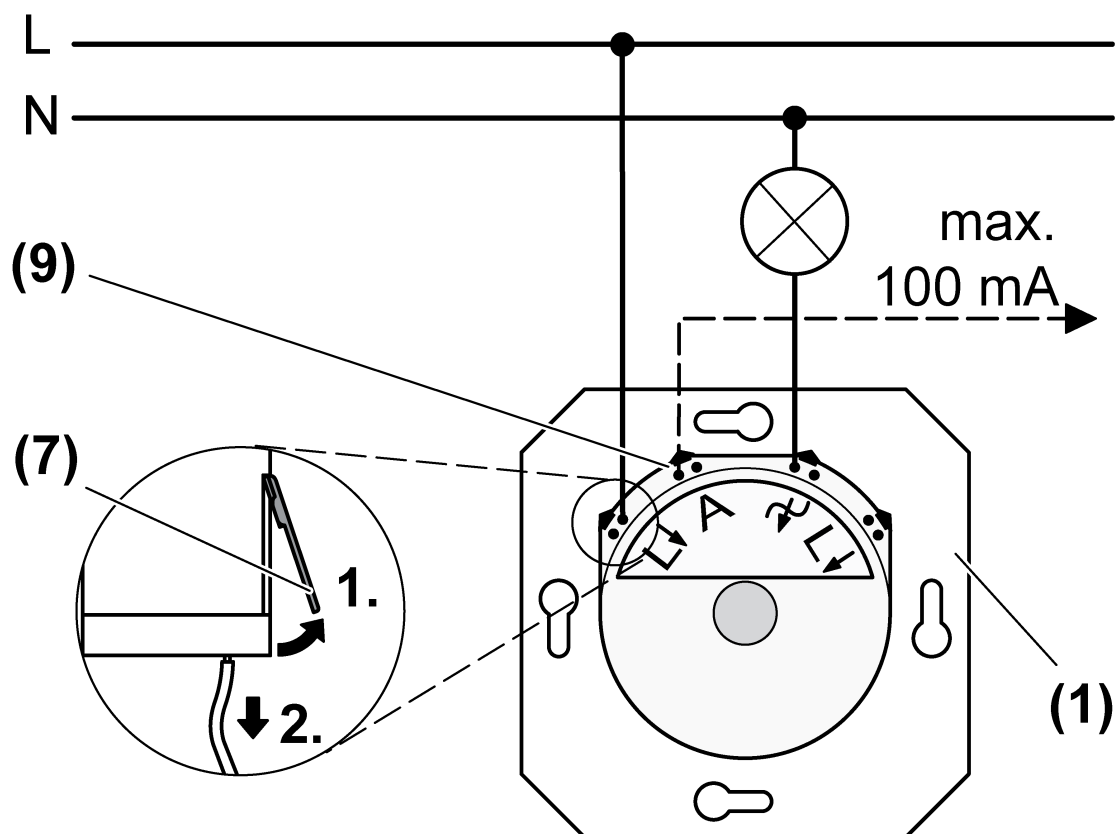
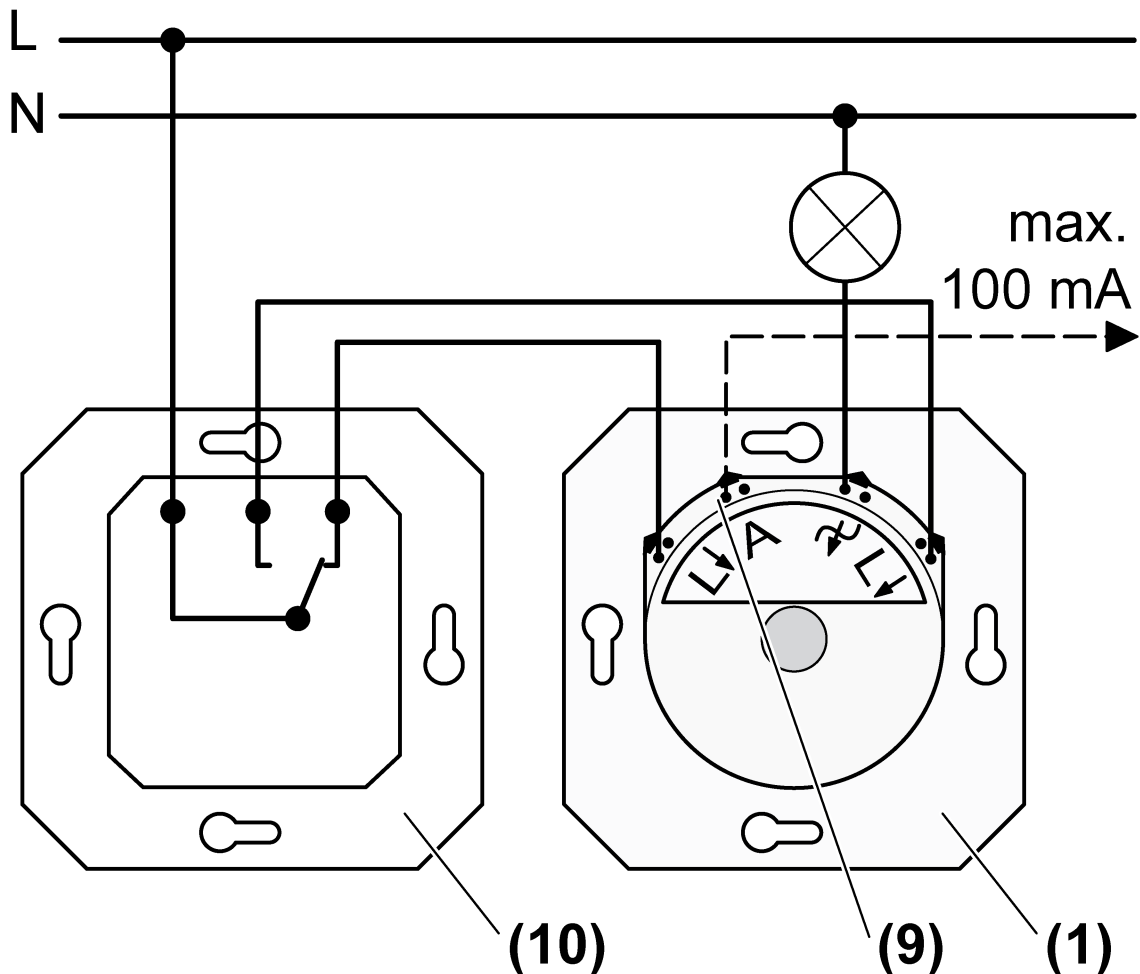

Figure 2: Connection diagram
Figure 3: Changeover circuit
- Control output **A** (9) (Figure 2) to output the switching state of the device for automatic power disconnection or relay
- Connect the dimmer (1) according to the connection diagram (Figure 2). Alternatively, install with a changeover switch (10) (Figure 3).
- ⓘ Pull the connecting cable out of the screwless terminal (7).